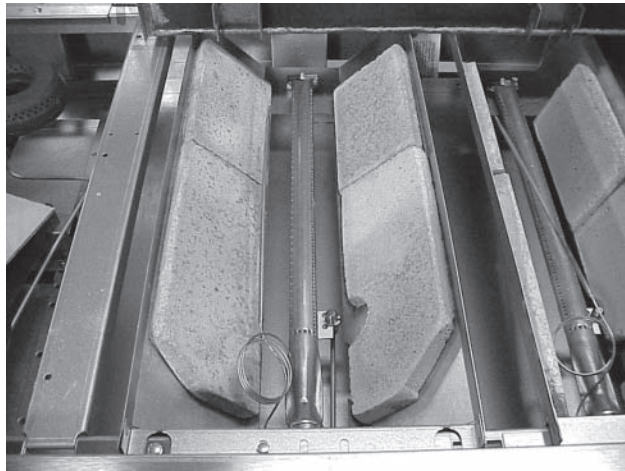

Fig. 4
NOTE: If a brick has been broken into two pieces, it can still be used. Just place the pieces into position as shown in Fig. 4. However, if a brick is broken into more than two pieces, it will need to be replaced. Contact your local Vulcan servicer.
3. Install (2) 10" x 4" (254 x 102 mm) bricks to the front of each baffle section, with the mitered edge facing up. Install (2) 7" x 4" (178 x 102 mm) bricks to the rear of each baffle section (Fig. 4).
3. Install two 10" x 4" (254 x 102 mm) composite/mortar bricks, placing the miter edge, one to each side of the front burner baffle area (see Fig. 4).
4. Install two 7" x 4" (178 x 102 mm) bricks, one to each side of rear burner baffle area (Fig. 4).